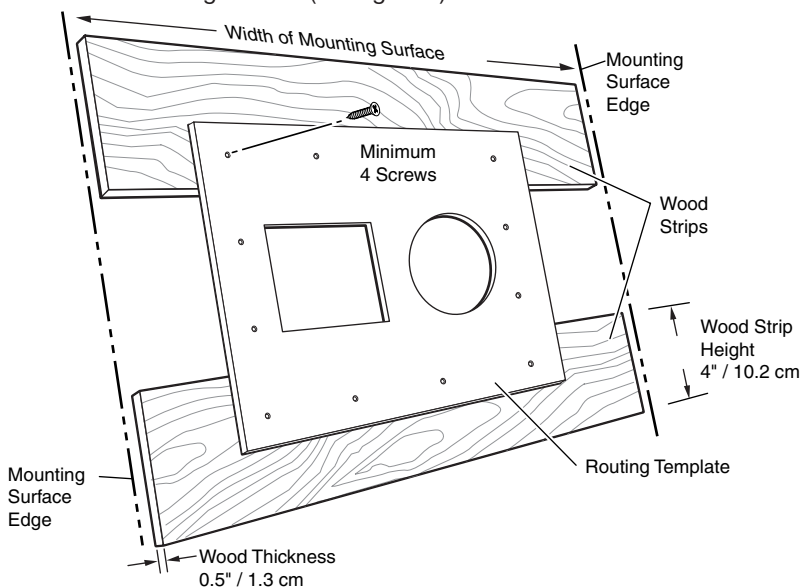

Figure 5. Prepared Mounting Template Assembly
1. Cut 1/2 inch x 4 inches strips of soft, finished lumber long enough to span the distance between the desired installation location on the mounting surface and the edges of the mounting surface (see figure 5).